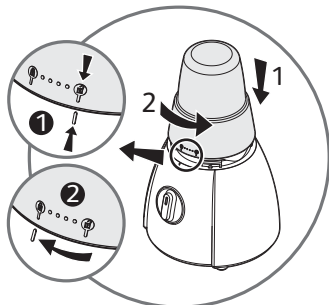

fig.6
- Rotate the assembled universal mill (F) and position it on the motor unit (D). The lock (open)  is aligned in the slot on the motor unit (D) (figure 6).
- Rotate the assembled universal mill (F) through a turn anticlockwise until the lock (closed)  appears (figure 6).
- Connect the appliance and start up by turning speed selector (E) to "Pulse," "1," or "2".
- To stop the appliance, bring the speed selector (E) to "0".
- Wait for the appliance back to a complete stop before removing the universal mill (C).
- Remove the universal mill (F) by unlocking it in opposite direction to installation.